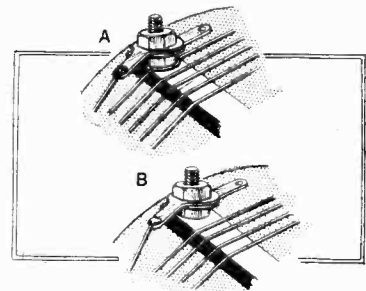

Fig. 3.—Showing correct (A) and incorrect (B) relative positions for windings and terminal screws on an H.F. transformer.
The sketch given in Fig. 3 (A) has been made from a transformer offered for sale as suitable for the "Everyman Four" receiver; it shows what is distinctly the wrong method of construction. Sketch (B) indicates the amount of spacing which should be allowed between the winding and terminal screw.